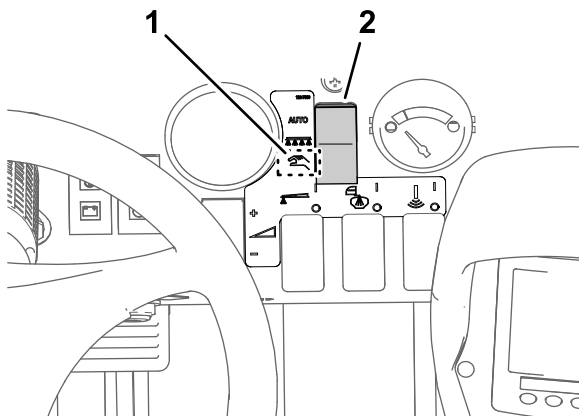

Figure 45
- Set the sprayer mode switch to the manual position (Figure 45).
- Rotate the knob for the section-bypass shutoff valve to the closed position (Figure 45).
- Press button 2 to advance to the next step (Figure 45).